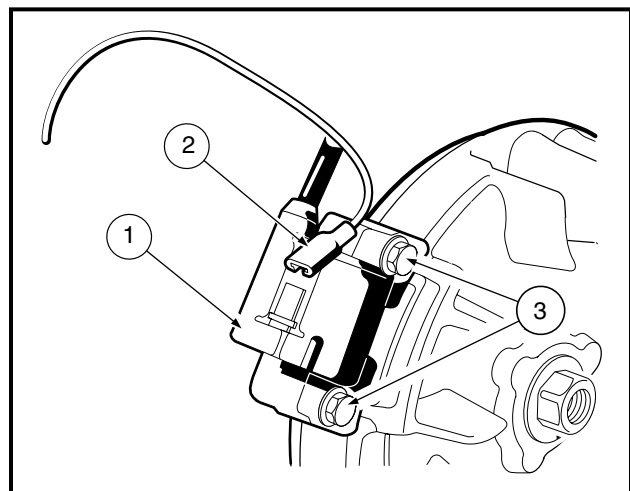

Figure 18-54 Ignition Coil
2. Disconnect the ignition coil (1) from its primary lead wire at the connector (2). Remove the two bolts (3) and remove the ignition coil (**Figure 18-54, Page 18-28**).